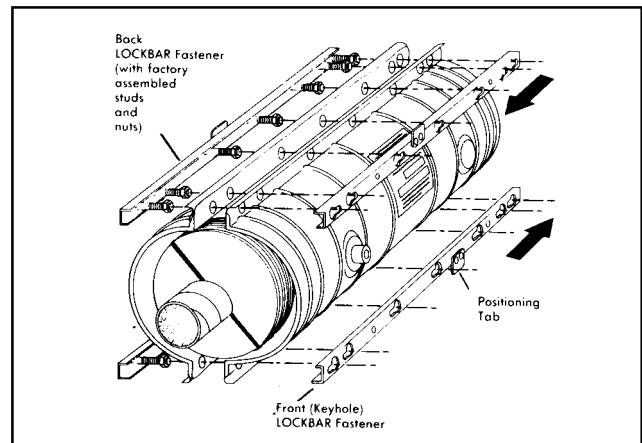

FIGURE 42 – LOCKBAR FASTENING
NOTE: Positioning tabs have been added to each LOCKBAR Fastener (front and back). These tabs should always point away from the Splice Case and will help assure proper alignment and eliminate the chance of a LOCKBAR Fastener being misapplied. (Figure 42)
15.07 Install LOCKBAR Fastening system as shown in Figure 42. LOCKBAR Fastening consists of a (back) studded LOCKBAR Assembly with factory assembled threaded bolts and nuts, and a (front) keyhole LOCKBAR Assembly. The back LOCKBAR Assembly mates with the front LOCKBAR Assembly through the flange of the Splice Case shells, and then locks into position.